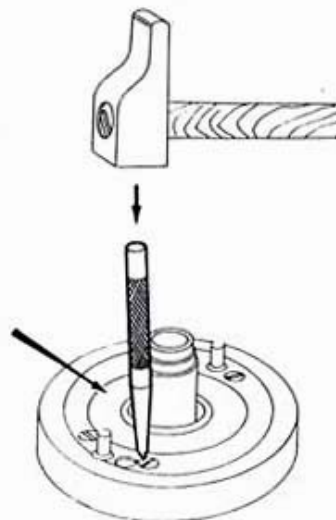

Fig. 6
- Punch lock the countersunk screws in the notch provided for this purpose (fig. 6).